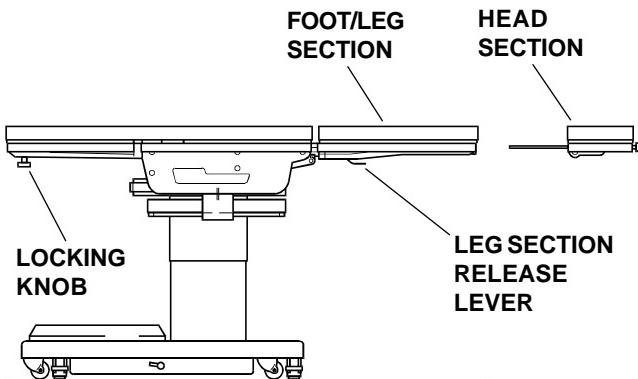

Figure 3-18. Repositioning Head Section
b. By loosening two locking knobs beneath the back section, an additional 5" of longitudinal adjustment can be achieved. If desired, the head section may be removed by loosening the locking knobs and pulling it straight out of the back section. 3500 Series Tables have the capability of attaching the head section to the leg section for use as a foot extension. Two locking knobs are located on the inside of the leg section for securing the head section. See figure 3-18.